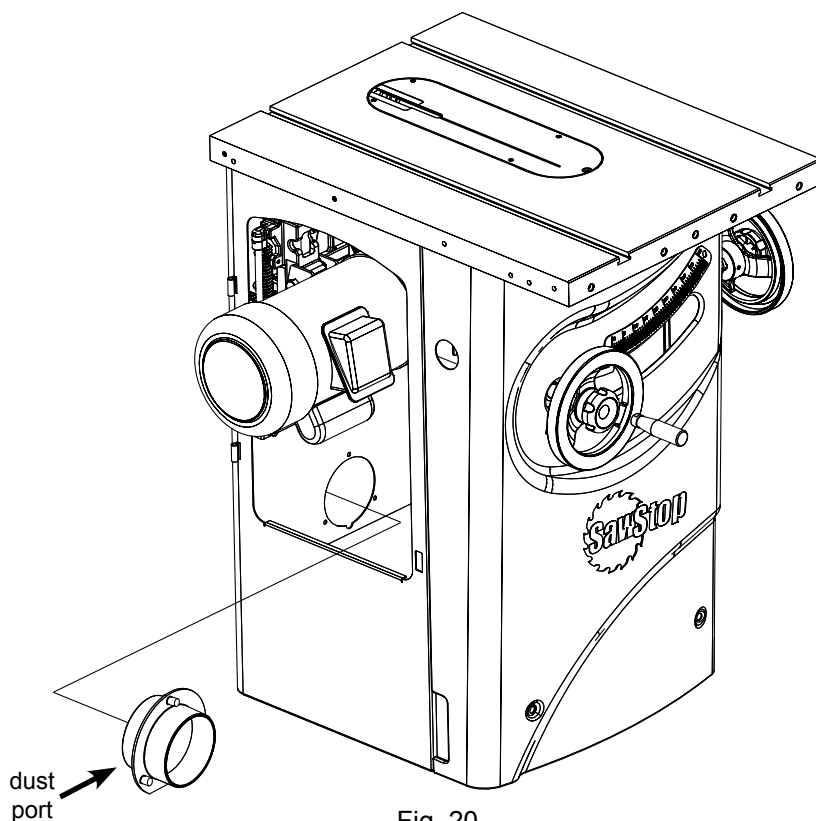

Fig. 20
- The dust port comes attached to the end of a flexible hose residing within the cabinet. Notice that there is a small semicircle on the dust port flange (see Fig. 19). The dust port must be inserted into the four inch diameter hole at the back of the cabinet from the inside of the cabinet as shown in Fig. 20. The semicircle acts as a key to correctly orient the dust port. The hardware required to install the dust port is located in the area with the green background on the Table Saw Hardware Pack. Remove the three dust port screws and lock washers from the Table Saw Hardware Pack and place a lock washer on each screw. Keep the screws nearby.